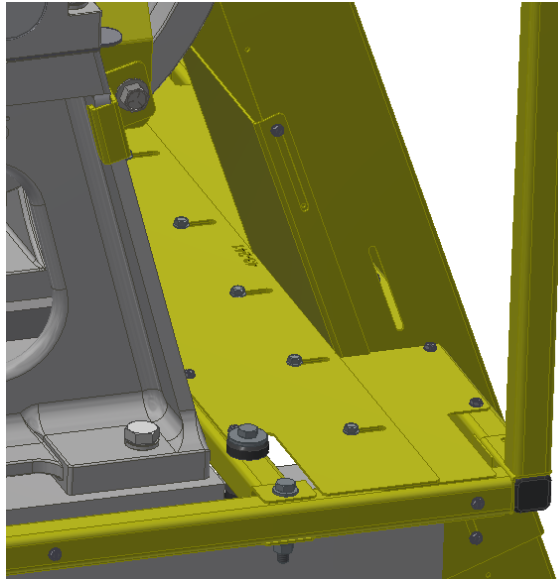

Figure 19: Machine Guard Rope Filler Panel & Mounting Tube Modification
- It may also be necessary to remove a section of the Machine Guard Corner Tube Assembly (p/n _ _-232) depending on the roping configuration as shown below in (Figure 19).